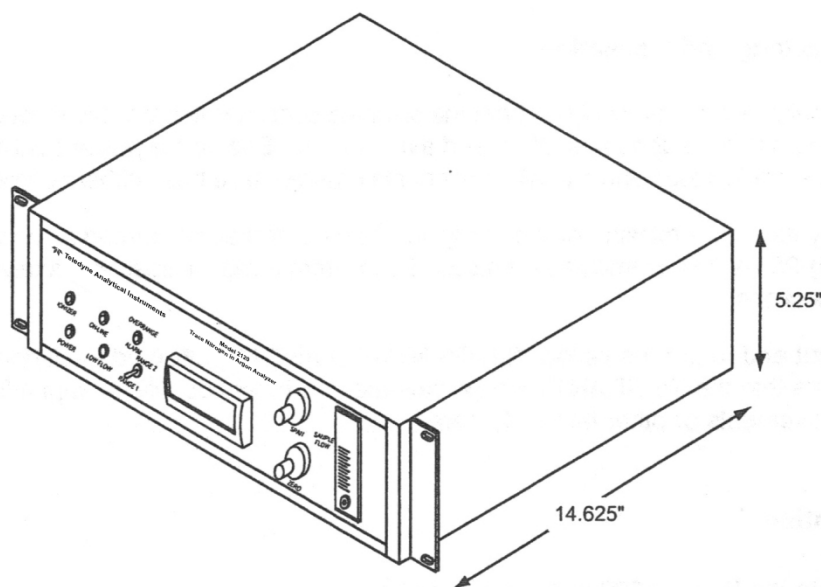

Figure 3-1: Analyzer Dimensions
- 5-1/4-inches (13.3 cm) of 19-inch rack space, as shown in Figure 3-1.